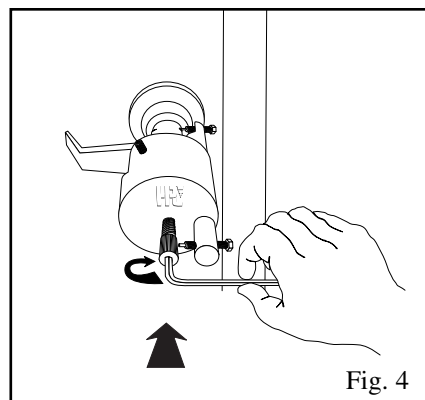

Fig. 4
4. Secure the Drive Bolt against the plug (see fig. 4).